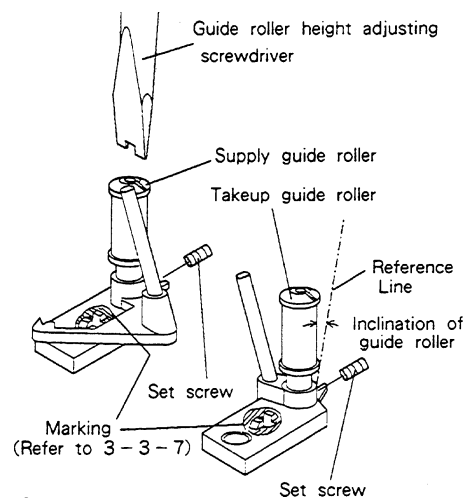

Fig. 3-3-2
- Loosen the set screw to such a degree as the supply guide roller turns lightly. (Refer to Fig. 3-3-2.)
- Loosen the set screw to such a degree as the takeup guide roller turns lightly. (Refer to Fig. 3-3-2.)